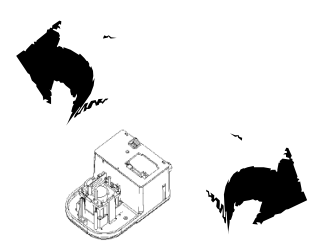

Fig 3
- Remove the fan by pressing on the two plastic retaining clips (see Fig 3). **IT IS RECOMMENDED THAT THE FAN ASSEMBLY BE REPLACED ANNUALLY.**